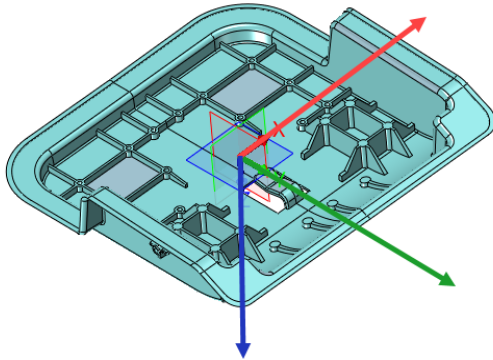

Figure 29 Result of Alignment
STEP 4 Click **OK**, then press **Ctrl+A** key to zoom all. The result shows as Figure 29.